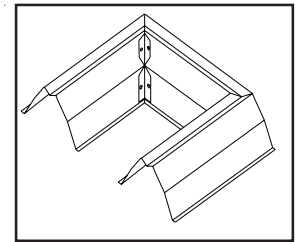

Fig. 2-15
**“U” Reflectors** (Part No. RU) cover TF1B “U” fittings. They attach to standard reflectors covering the end of a “U” configuration (see fig. 2-15). Reflectors cannot be rotated after installation of this accessory.